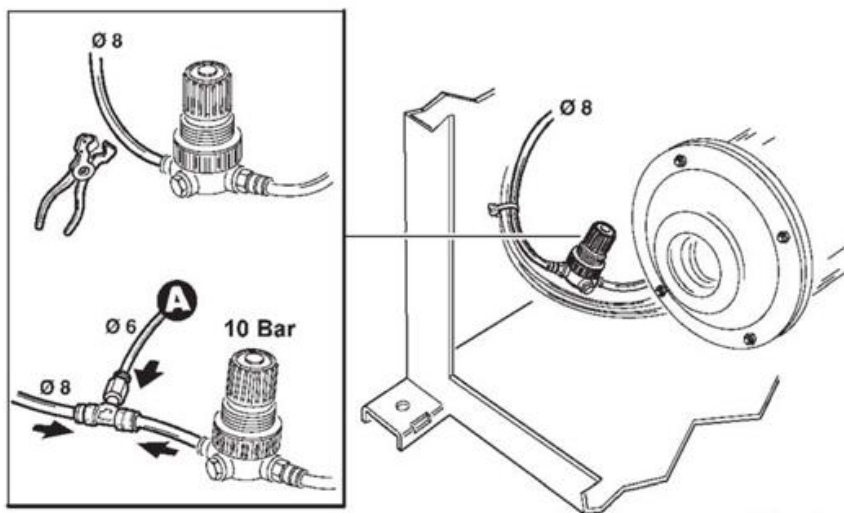

Fig. 6
- Cut the feeding air hose (fig. 6) at about 5cm from the regulator (if any).